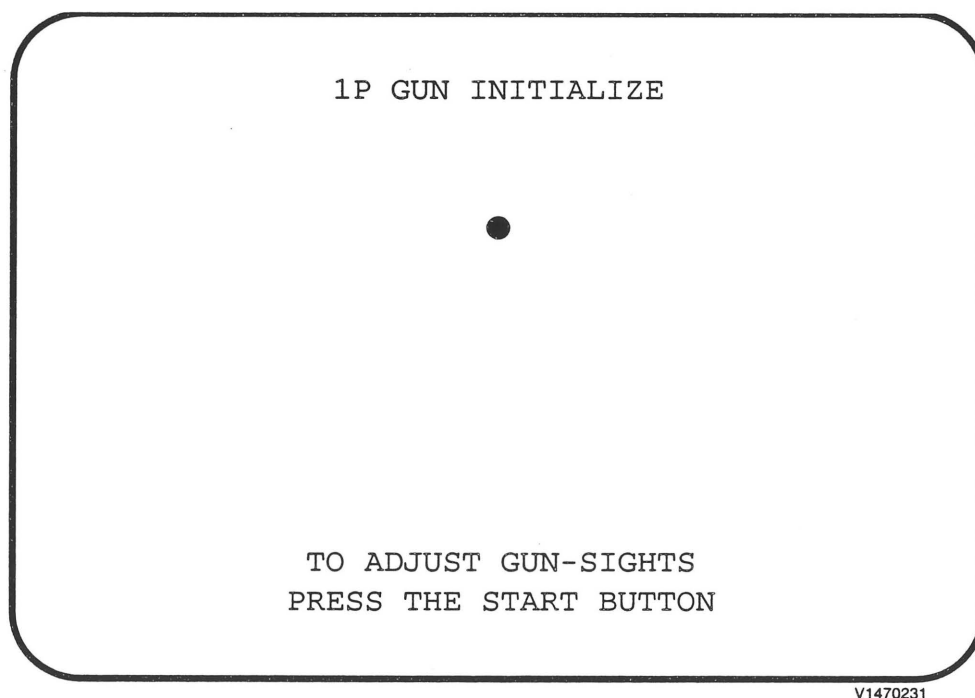

Figure 4-1 GUN INITIALIZE Screen
4. The GUN INITIALIZE screen will appear as shown in Figure 4-1.